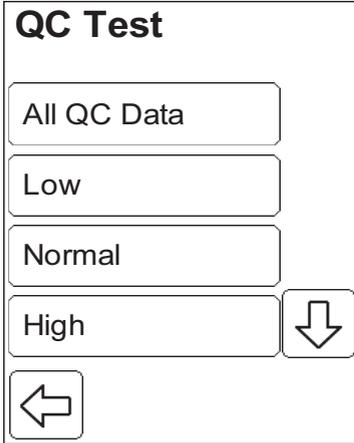

FIGURE 9-10
The From date (1) and To date (2) displayed represent the earliest and latest stored QC tests. It is possible to change the date interval. If no change is required, press the Confirm button (4). *FIGURE 9-10* will then be displayed.
- a) If required, change the From date (1) via the Digit buttons (3). When finished, press the Confirm button (4).
- b) Repeat instruction “a)” to change the To date (2).
- c) *FIGURE 9-10* will be displayed.
The Previous image button (7) must be pressed to return to the QC Test categories image, *FIGURE 9-10*.
- d) To return to the QC Test categories image, *FIGURE 9-10*, press the Confirm button (10).
- c) Press the Confirm button (8). *FIGURE 9-10* will be displayed.
- d) Press the Confirm button. *FIGURE 9-10* will be displayed.